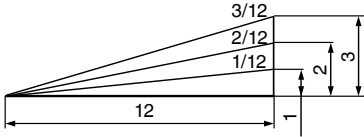

Fig. 34
- (4) The gradient, which is the ratio of the height to the base of the triangular section to be removed, may be used for setting the miter scale instead of the cutting angle, if desired (see Fig. 34).